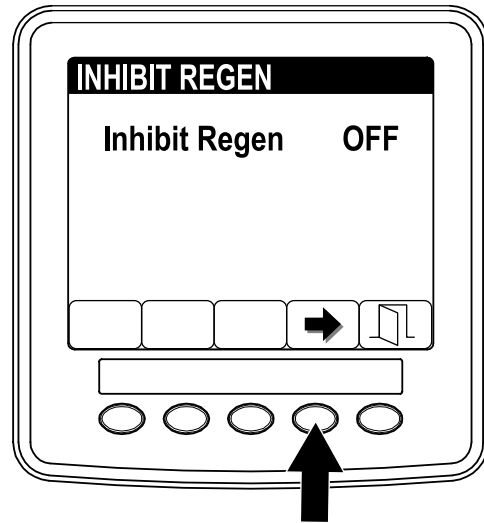

Figure 42
3. Press the button 4 to change the inhibit regeneration setting from On to Off (Figure 42) or from Off to On.